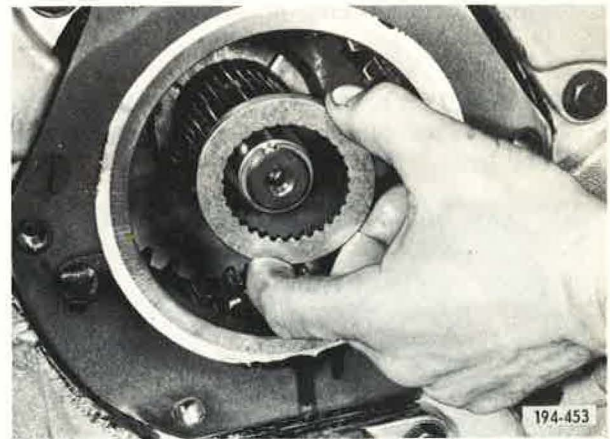

Figure 36. Installing Fourth Speed Gear Selective Thrust Washer
20. Install fourth speed gear selective thrust washer on mainshaft. See Figure 36.